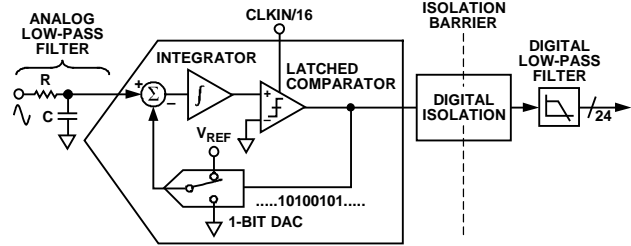
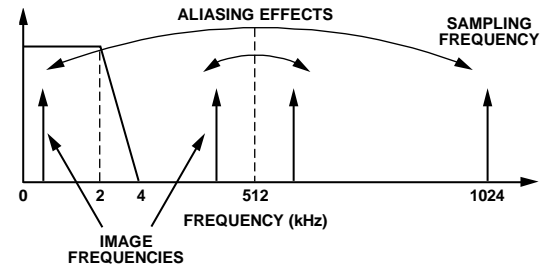

Figure 25. First-Order  $\Sigma$ - $\Delta$  ADC
Figure 27. Aliasing Effects
The ADE7912/ADE7913 have three second-order  $\Sigma$ - $\Delta$  ADCs. For simplicity, the block diagram in Figure 25 shows a first-order  $\Sigma$ - $\Delta$  ADC. The converter is composed of the  $\Sigma$ - $\Delta$  modulator and the digital low-pass filter, separated by the digital isolation block.
Figure 25 also shows an analog low-pass filter (RC) on the input to the ADC. This filter is placed outside the ADE7912/ADE7913, and its role is to prevent aliasing. Aliasing is an artifact of all sampled systems, as shown in Figure 27. Aliasing refers to the frequency components in the input signal to the ADC that are higher than half the sampling rate of the ADC and appear in the sampled signal at a frequency below half the sampling rate. Frequency components above half the sampling frequency (also known as the Nyquist frequency, that is, 512 kHz) are imaged or folded back down below 512 kHz. This happens with all ADCs, regardless of the architecture. In Figure 27, only frequencies near the sampling frequency of 1.024 MHz move into the bandwidth of interest for metering, that is, 40 Hz to 3.3 kHz, or 40 Hz to 2 kHz. To attenuate the high frequency noise (near 1.024 MHz) and prevent the distortion of the bandwidth of interest, a low-pass filter (LPF) must be introduced. It is recommended that one RC filter with a corner frequency of 5 kHz be used for the attenuation to be sufficiently high at the sampling frequency of 1.024 MHz. The 20 dB per decade attenuation of this filter is usually sufficient to eliminate the effects of aliasing.
All ADCs in the ADE7912/ADE7913 produce 24-bit signed output codes. With a full-scale input signal of 31.25 mV on the current channel and 0.5 V on the voltage channels, and with an internal reference of 1.2 V, the ADC output code is nominally 5,320,000 and usually varies for each ADE7912/ADE7913 around this value. The code from the ADC can vary between 0x800000 (−8,388,608) and 0x7FFFFFFF (+8,388,607); this is equivalent to an input signal level of ±49.27 mV on the current channel and ±0.788 V on the voltage channels. However, for specified performance, do not exceed the nominal range of ±31.25 mV for the current channel and ±500 mV for the voltage channels; ADC performance is guaranteed only for input signals within these limits. For input signals outside these limits, the digital low-pass filter of the ADCs (see Figure 25) overflows.